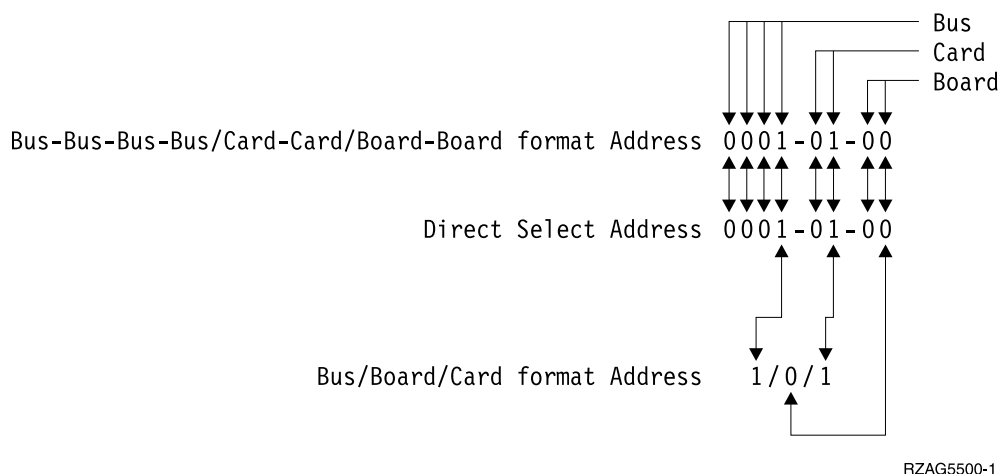

Figure 78. Format Conversion
11. Use Figure 78 on page 770 to understand how addresses in the Bus/Board/Card format relate to the Bus-Bus-Bus-Bus/Card-Card/Board-Board format. You can also use Figure 78 on page 770 to understand how addresses in the Bus/Board/Card format relate to the direct select addresses used in “System Unit and Expansion Unit Locations and Addresses” on page 712.
| x1 = System bus       | The one, two or three digit decimal representation of the hexadecimal Bus value of the Bus-Bus-Bus-Bus/Card-Card/Board-Board format Address at the top of Figure 78 on page 770. |
| x2 = System board     | The one or two digit decimal representation of the hexadecimal Board value of the Bus-Bus-Bus-Bus/Card-Card/Board-Board format Address at the top of Figure 78 on page 770.      |
| x3 = System card      | The one or two digit decimal representation of the hexadecimal Card value of the Bus-Bus-Bus-Bus/Card-Card/Board-Board format Address at the top of Figure 78 on page 770.       |